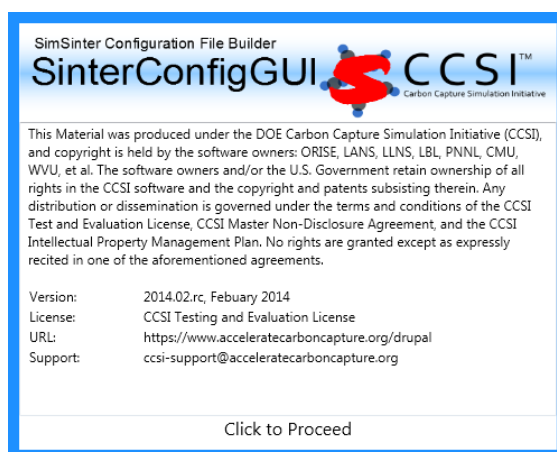

Figure 16: SimSinter Configuration File Builder splash screen.
3. The SinterConfigGUI Open Simulation window displays as shown in Figure 16. Click “Browse” to select the file to open and then click “Open File and Configure Variables” to open the file.